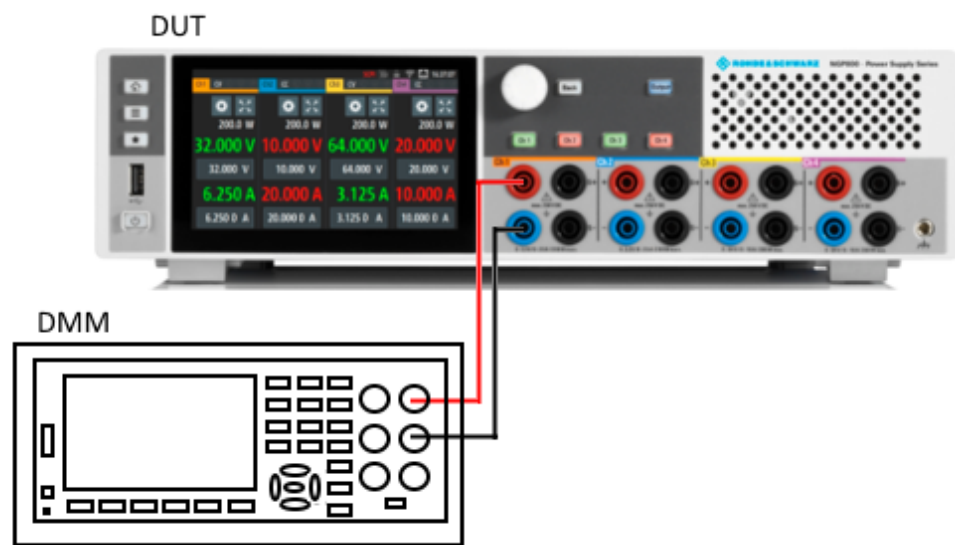
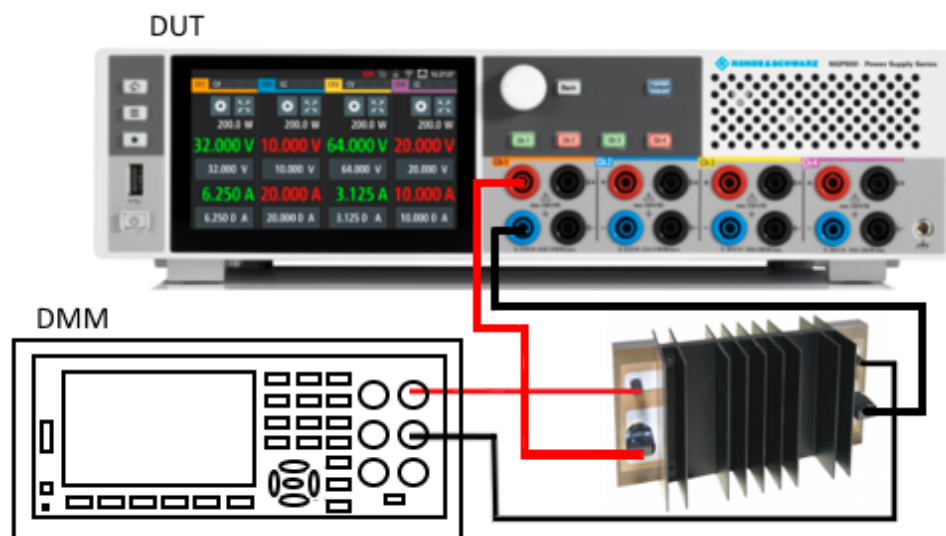

Figure 5-41: Voltage adjustment setup
Figure 5-42: Current adjustment setup
- Connect the DMM to the instrument and monitor the measured voltage or current. See Figure 5-41 and Figure 5-42.
- Depending on the types of adjustment (voltage or current), setup the instruments illustrated in Figure 5-41 or Figure 5-42.